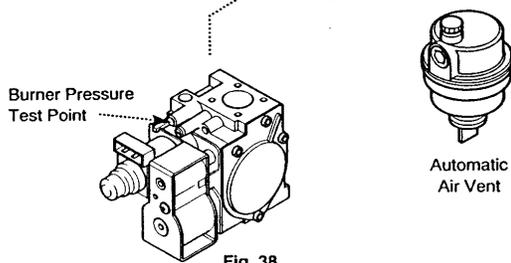

Fig. 38
3. Remove the pressure test point sealing screw from the gas valve and connect a pressure gauge (Fig. 38).